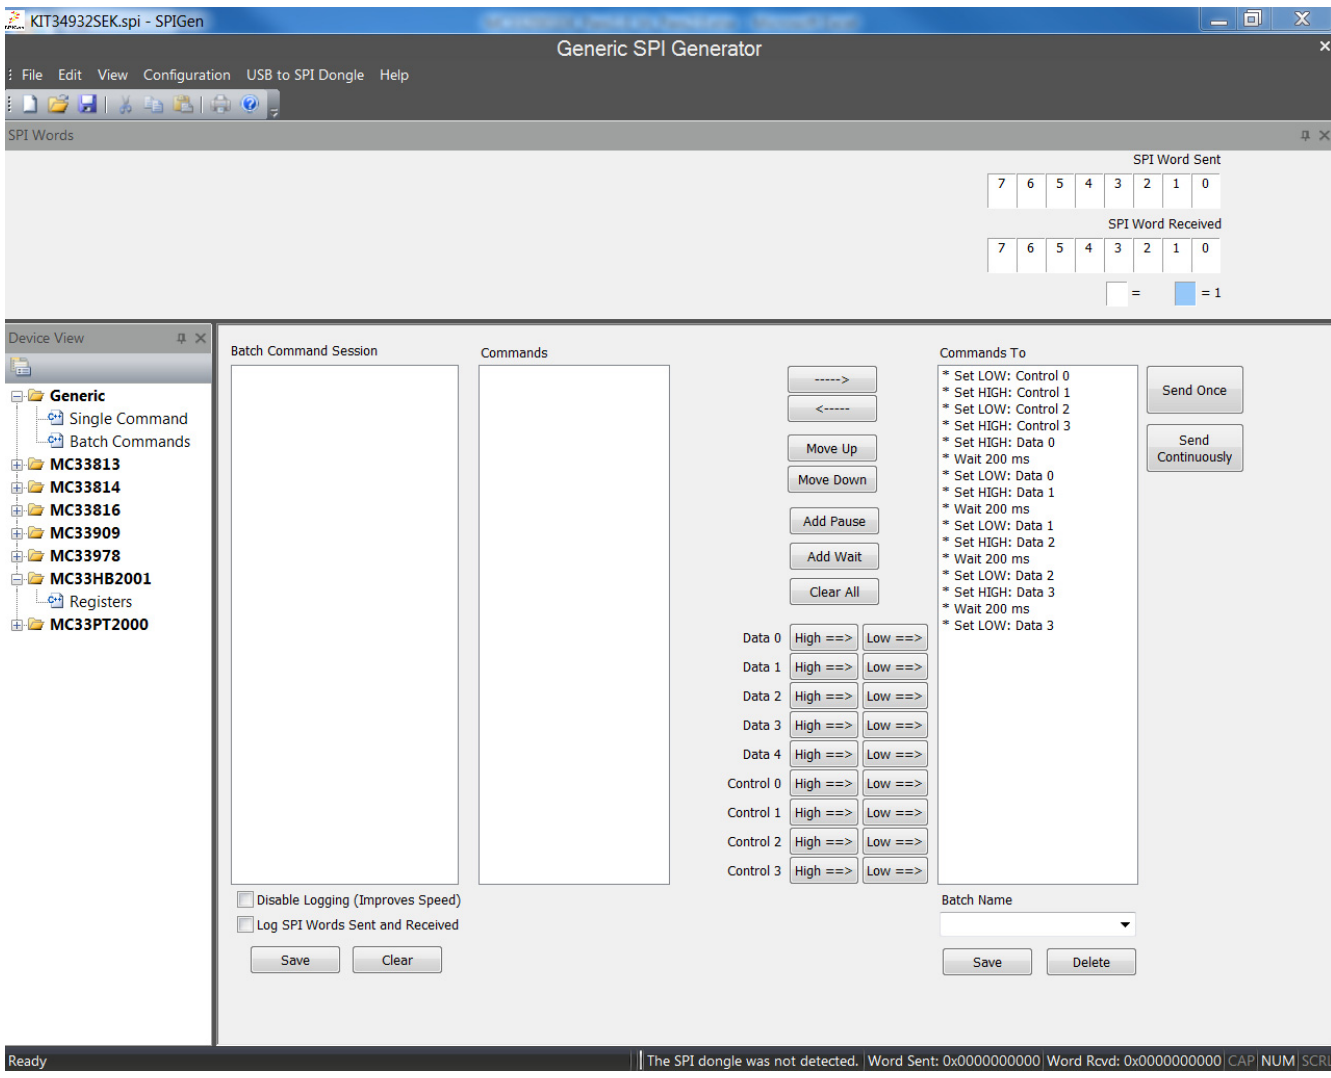

Figure 8. SPIGen GUI
2. From the SPIGen menu bar, click on FILE>Open and select the configuration file "KIT34932EKSW.spi" (previously downloaded in Section 5.1.) Figure 8 shows SPIGen screen with the configuration file installed.